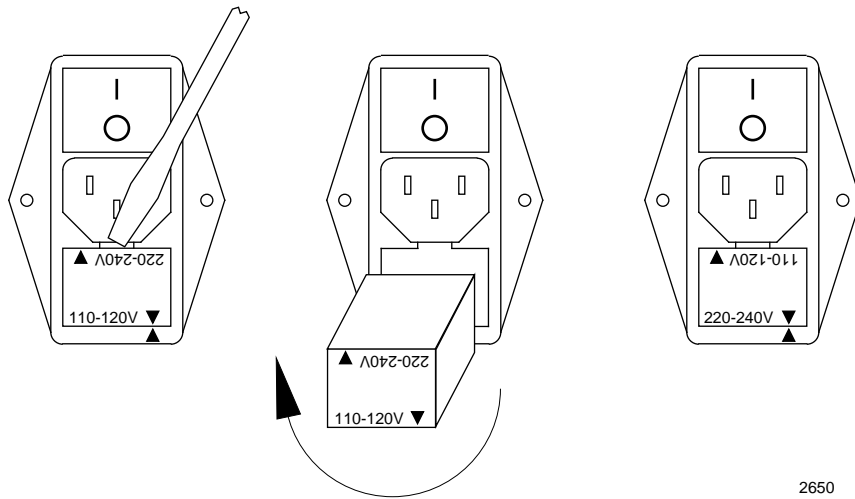

Figure 2-6: Changing the Voltage Rating
Freeway's voltage rating must match the voltage rating of the electrical outlet into which you are going to plug the unit. Freeways shipped in the United States are configured for 110 - 120V. To determine the voltage rating for your Freeway, look at the label on the voltage adjustment module on the back panel below the power cord socket. The voltage rating in use is the one that is printed right-side up (its arrow is aligned with the arrow at the bottom edge of the voltage adjustment module). For example, the voltage rating shown in the left-hand panel of Figure 2-6 is 110 – 120V.
3. Rotate the module 180 degrees. Reinsert the module in the back panel. Figure 2-6 shows how to change the voltage from 110V to 220V.